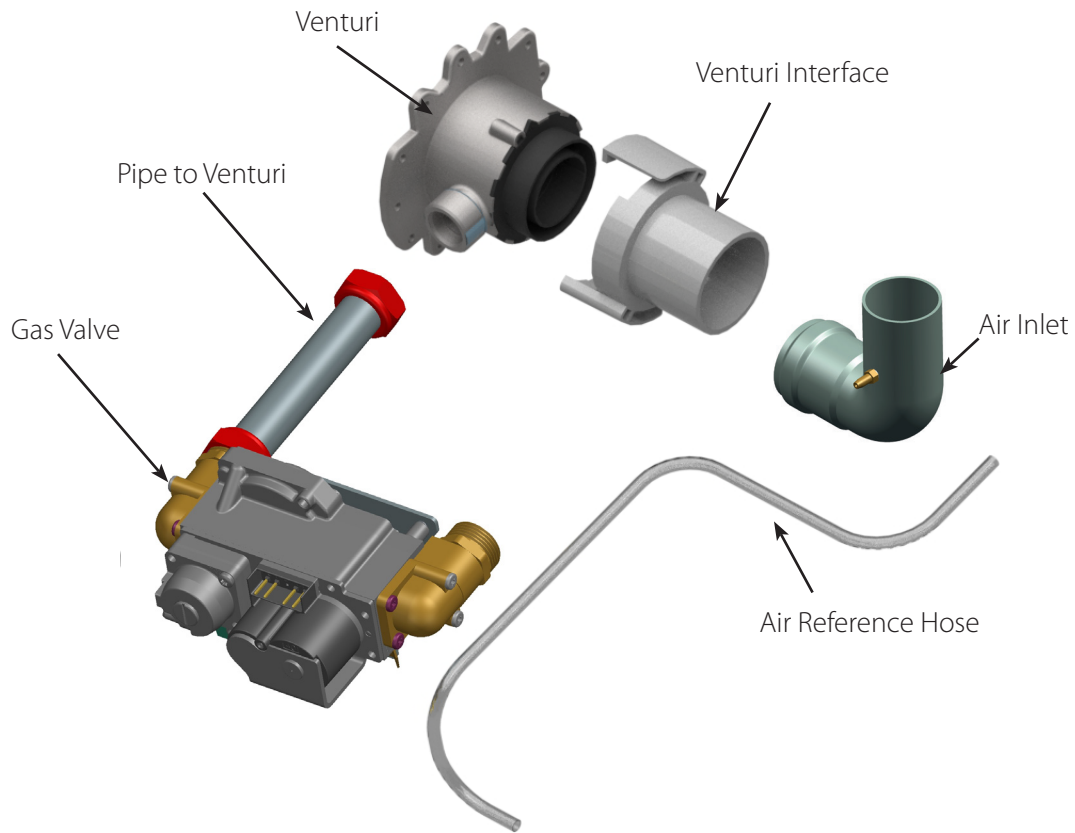

Fig. 24 - Gas Valve / Venturi Assembly - INSTINCT Solo 110
- Prior to start up, ensure the unit is set to fire propane. Check the rating label for the type of fuel. Check the venturi for propane conversion label. If there is a conflict or doubt on the burner configuration, remove the venturi and check for proper propane gas orifice sizing on venturi labeling. Refer to Tables 1 and 3 below. See Fig. 24 and 25 on page 40 and Fig. 26 on page 41 for venturi location. Refer to Propane Conversion Instructions for proper removal and replacement of the venturi.